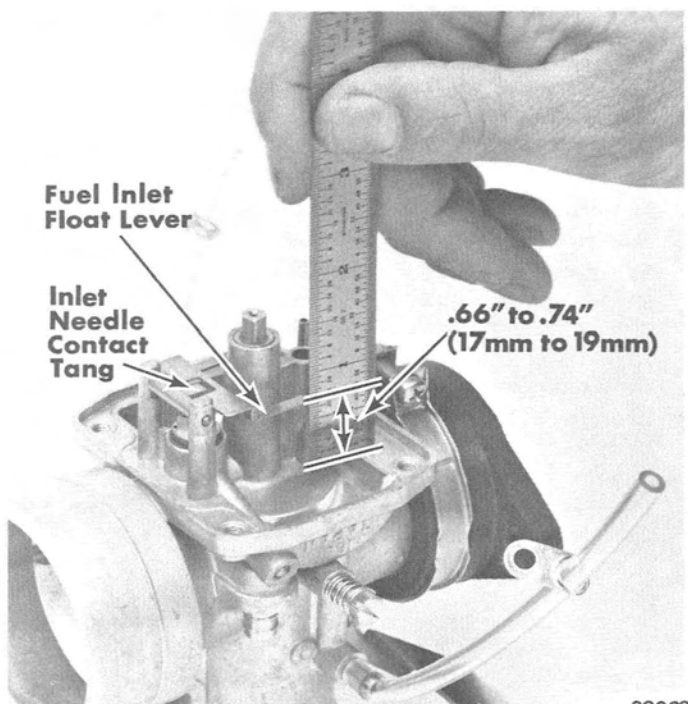

Figure 7. Float Lever Adjustment
8. BEFORE installing stabilizer plate and gaskets, install float lever and secure in place with float lever pin. Check float lever adjustment, as shown in Figure 7, and adjust as necessary. Float lever, when properly adjusted, should be .66" to .74" (17mm to 19mm) from gasket surface of carburetor bowl (with gaskets removed) to top edge of float lever with inlet needle closed. (Figure 7)